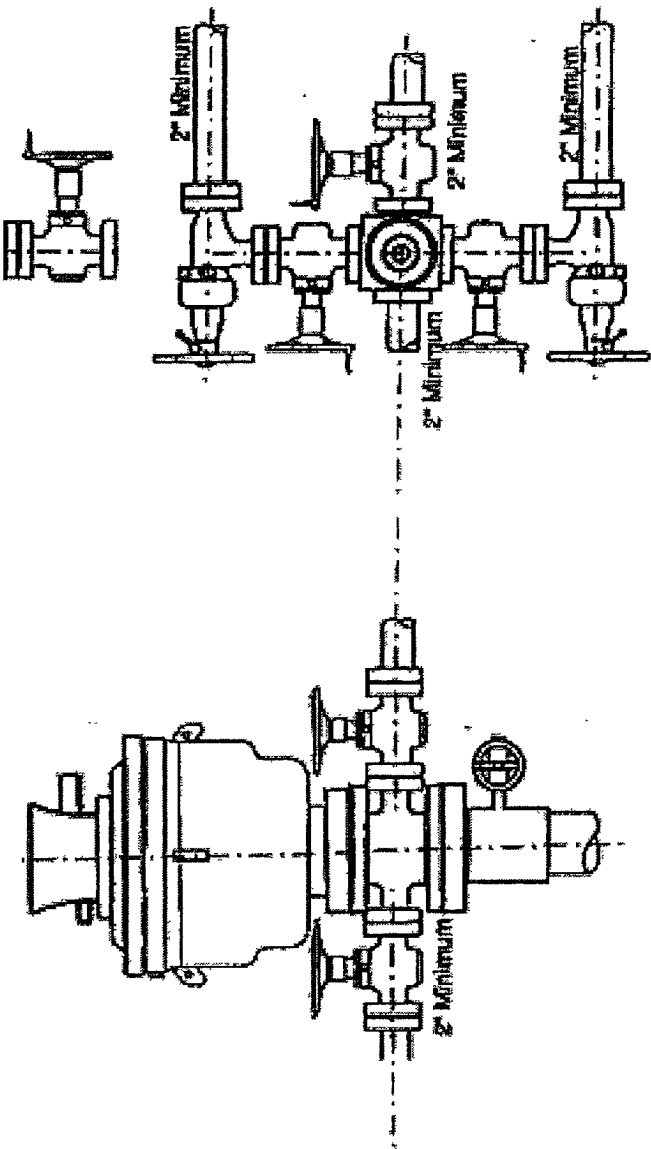

Figure 3-1A
- Attachment # 4 ..... BOP and Choke Manifold Schematic – 2M System (Figure 3-1A, Appendix G, from BLM)